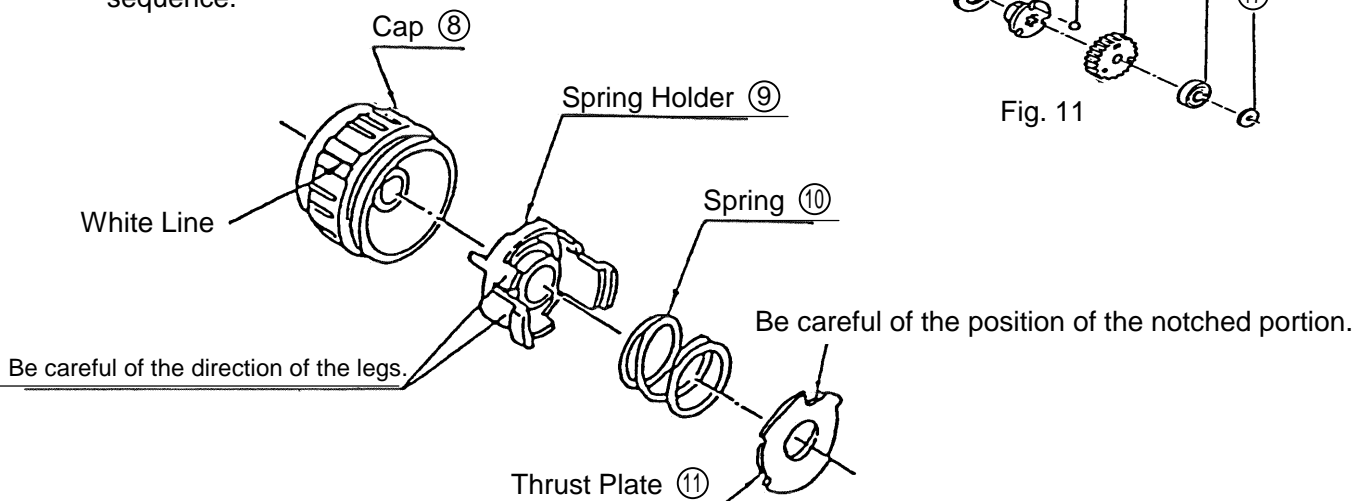

Fig. 12
- (i) When assembling the Spring Holder ⑨ and the Thrust Plate ⑪, be particularly careful of their positioning in relation to the Cap ⑧. (Fig. 12)
- (ii) When the white line on the Cap ⑧ is aligned with the NO. 1 clutch setting on the Housing (A) (B) Set ②④, the Spring Holder ⑨ and Thrust Plate ⑪ must be directed as indicated in Fig. 12. At that time, the Spring Holder ⑨ is at its maximum depth within the Cap ⑧.